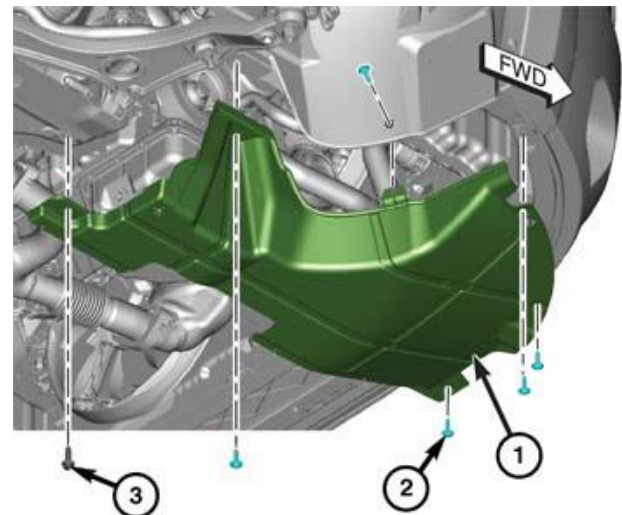

Figure 16 – Right Side Underbody Shield
12. Remove the fastener (3) that secures the right side underbody shield (1) to the cradle (Figure 16).
13. Remove the five fasteners (2) that secure the right side underbody shield (1) to the fascia and wheel liner (Figure 16).
14. Remove the right side underbody shield (1) from the vehicle (Figure 16).
22. Install the right side underbody shield (1) to the vehicle (Figure 16).
23. Install the five fasteners (2) that secure the right side underbody shield (1) to the fascia and wheel liner, tighten securely (Figure 16).
24. Install the fastener (3) that secures the right side underbody shield (1) to the cradle, tighten to 20 N·m (15 ft lbs). (Figure 16).